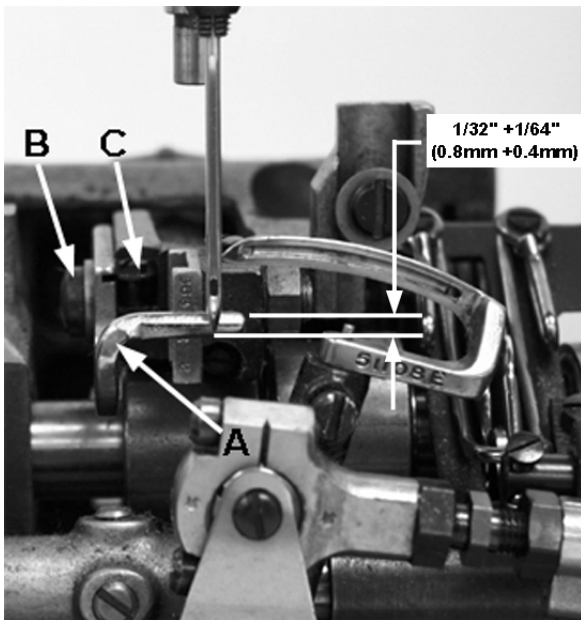

Fig 13
Rotate handwheel in operating direction to position looper point to just enter the scarf of needle. At this time the needle guard (A, Fig 13) should be at its extreme end of forward travel. Set the guard front to back as close as possible without touching the needle. Guard should be set as low as possible, yet have its vertical face approach above the needle point  $1/32'' + 1/64''$  (0.8mm +0.4mm). To move the needle guard forward or backward, loosen the screw (B), move needle guard as required, and retighten screw. To raise or lower needle guard, loosen screw (B), and turn screw (C) clockwise to lower needle guard or counterclockwise to raise it. Retighten screw (B) after guard is properly set.